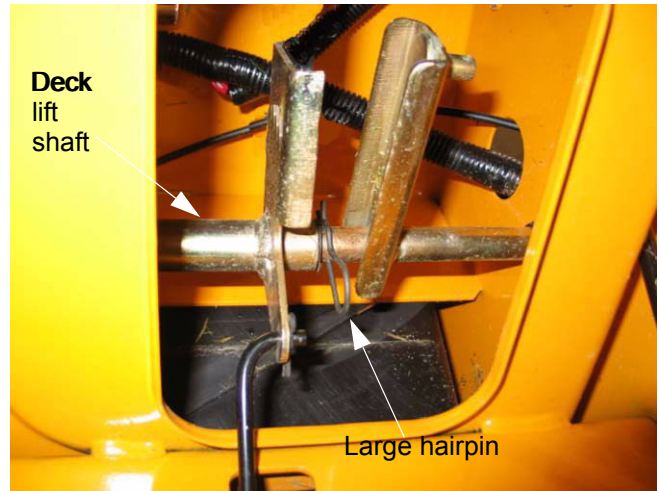

Figure 14.10
- 14.10. Remove the only large hairpin going through the center of the deck lift shaft on the left side of the shaft. See Figure 14.10.